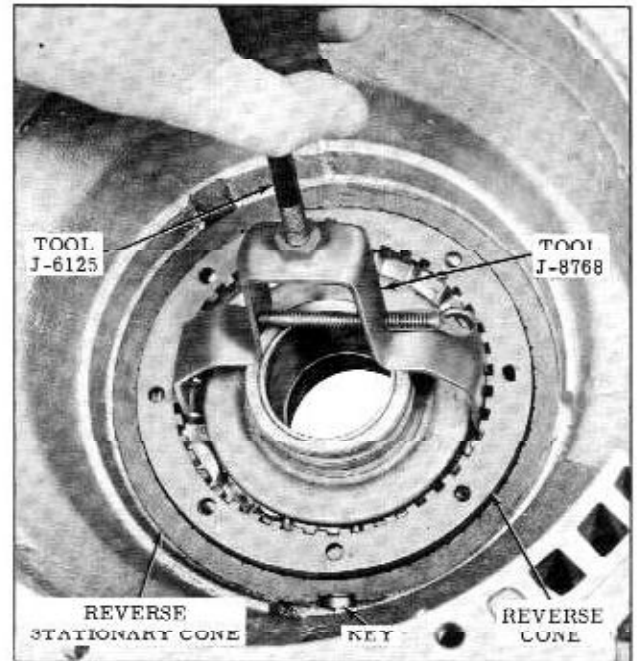

Fig. 3-54 Removing Reverse Cone
55. Remove the reverse cone and stationary cone using Tool J-8768, Cone Remover. Slide hammer, Tool J-6125 may be used if reverse cone sticks. (Fig. 3-54)